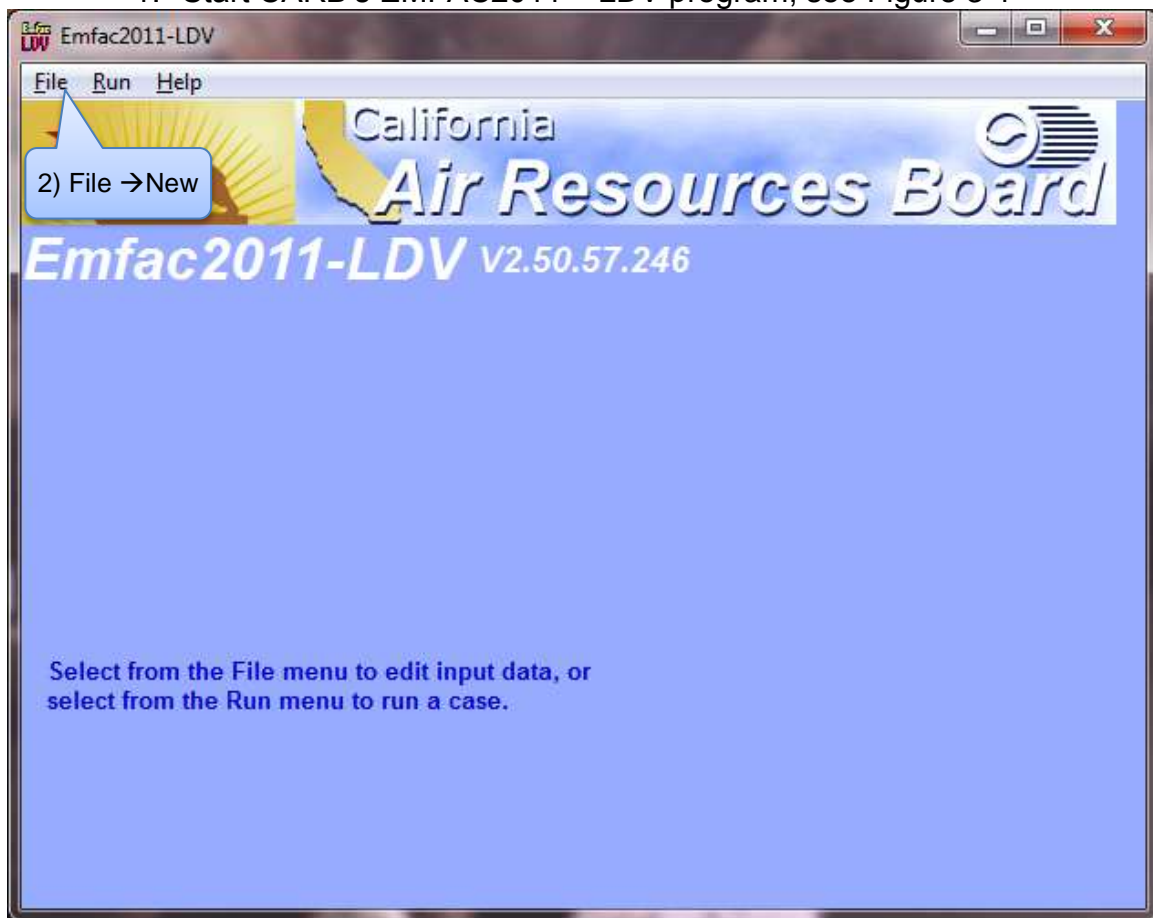

Figure 3-1 EMFAC2011 - LDV Main Menu
1. Start CARB’s EMFAC2011 – LDV program, see Figure 3-1